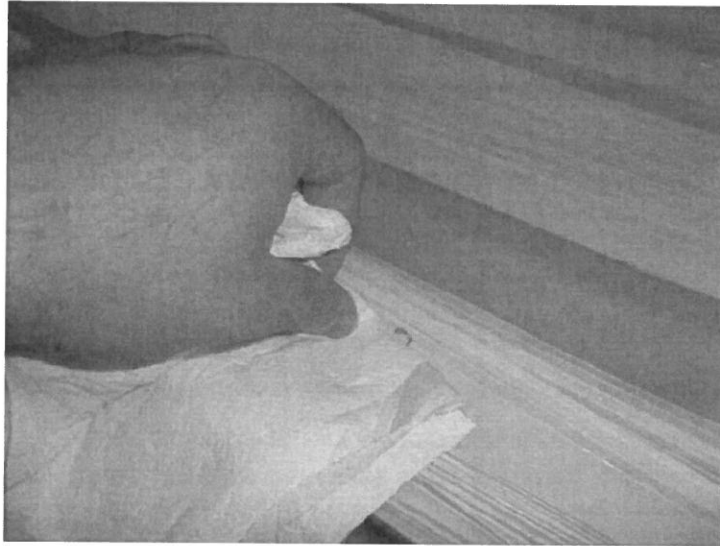

Figure 4-58. Drying the defected area
4. Dry and clean the area around the fault in the membrane, Figure 4-58.